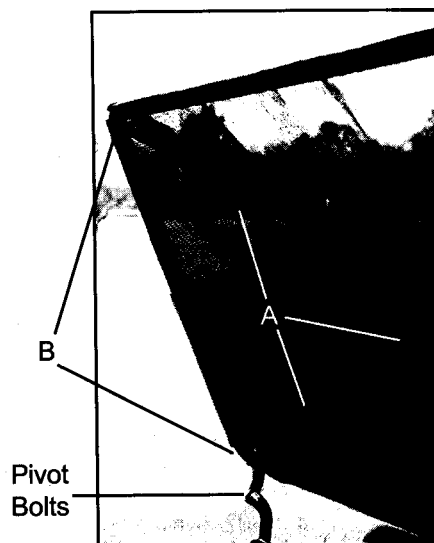

Figure 3.6 - Frame Installation
1. With the grass catcher assembly mounted on the mower, open up the grass catcher fully. To hold the grass catcher open, tighten the pivot bolts. (Refer Figure 3.6)
2. Insert the internal frame assembly (A) into the grass catcher, aligning the mounting holes on the internal frame over the locating bolts on the catcher assembly.
3. Secure using four 1/4" nyloc nuts (B). (Refer Figure 3.6).